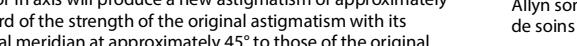

Figure 10
1. Remove retinoscope from power source (Figure 10).